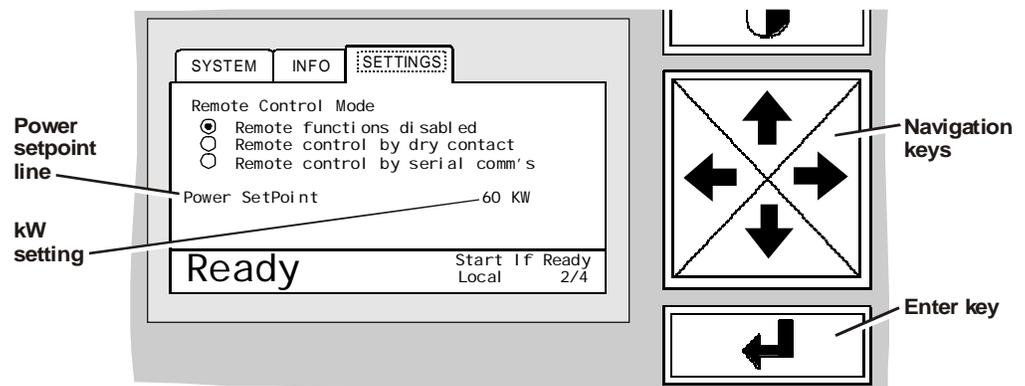

Figure 28. Power Setpoint in Settings folder
- 2 If the Settings folder (Figure 28) is not visible, display it by pressing the right or left navigation key.
- 3 Press the down navigation key until settings page 2 appears (Figure 28).